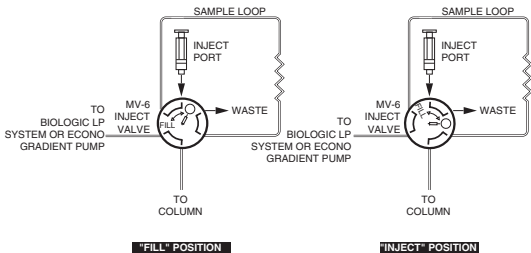

Fig. 2. Connecting to a MV-6 valve.
2. To maximize gradient accuracy and apply samples efficiently, install 1.6 mm ID tubing from the pump to the MV-6 sample inject valve (if available). If using the MV-6 sample inject valve, turn the knob counterclockwise as far as it will go so it will now correspond to the printed diagram on the valve. (See Figure 2.)
3. Connect the inlet of the cartridge to the male Luer fitting on the MV-6 sample inject valve. (See Figure 2.) If not using the MV-6 sample inject valve, connect a barb to male Luer fitting on the 1.6 mm ID tubing, then connect to the top of the female Luer on the Bio-Scale mini cartridge. For optimum performance, a cartridge should be mounted vertically with the arrow on the cartridge pointing downward.